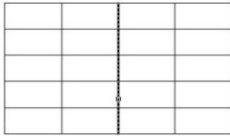

Fig 16
- 2. Specify the line of table for dragging. (Fig16)